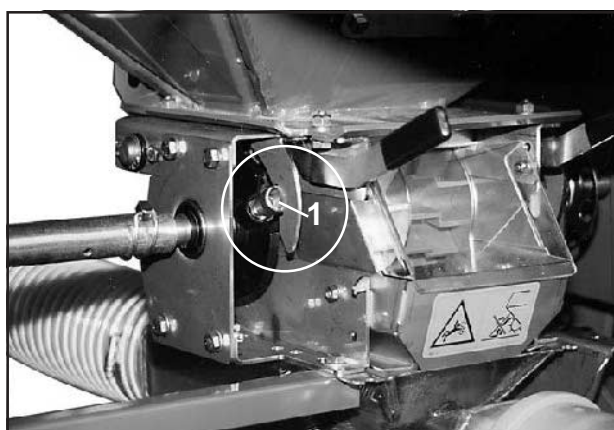

Fig. 7.4
- Drive out **both** coupling screws (main seed metering wheels) (7.3/1) until they reach into the relevant gap of the stop plate (7.3/2) (see Fig. 7.4).